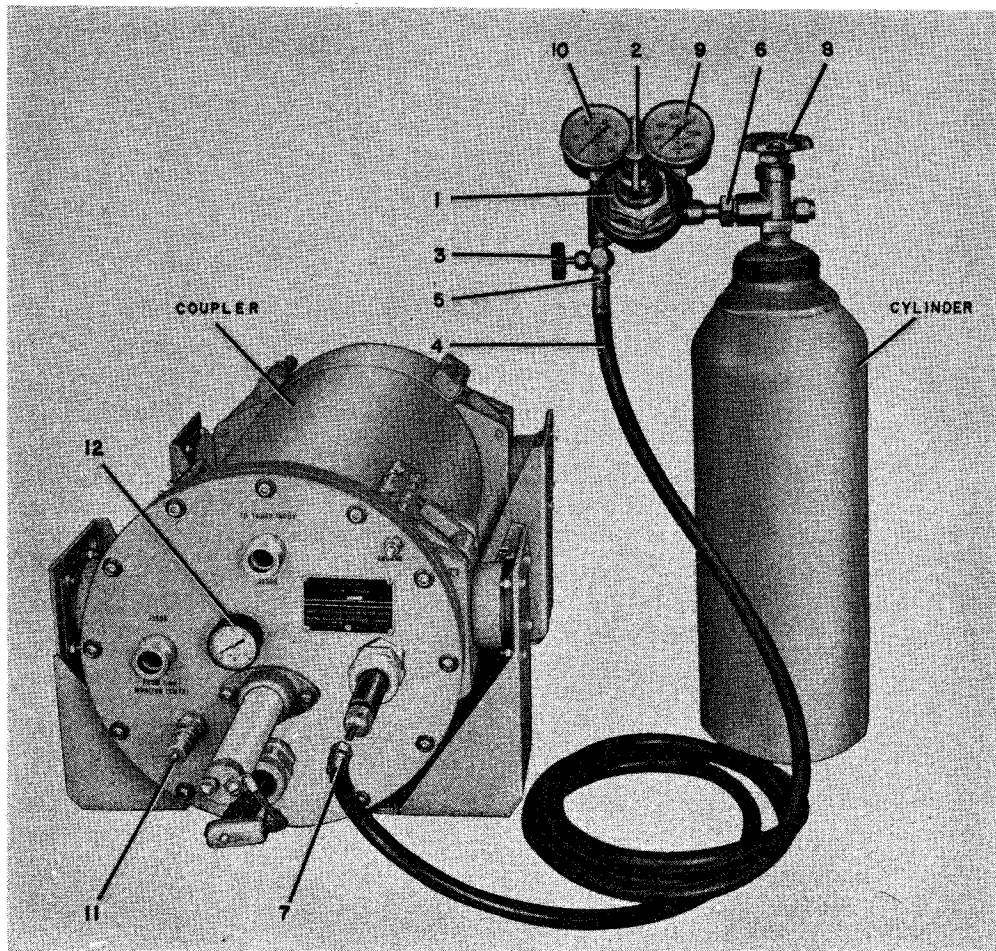

Figure 6-37. Typical Pressurizing Procedure
**n. CHARGING R-F TUNER OR COUPLER.** (See figure 6-37.)—When pressure in the r-f tuner or the coupler falls below 15 psi, it will be necessary to add more nitrogen to bring the pressure up to its normal 20 psi. A method for charging those units follows: